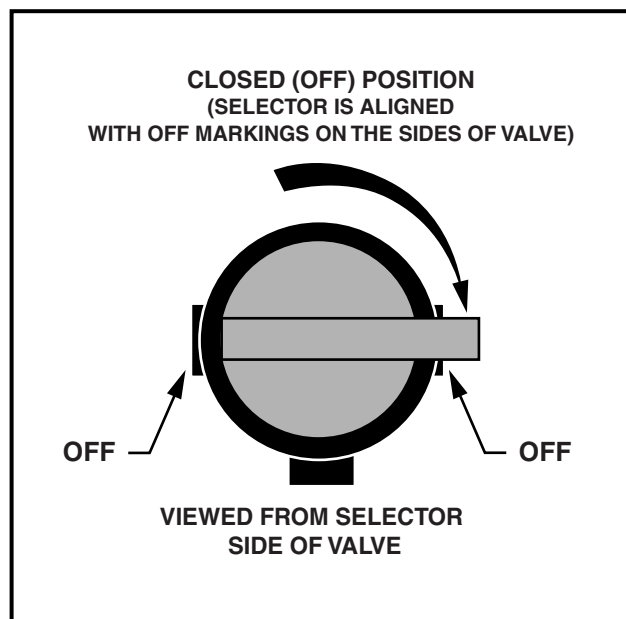

Figure 14 Fuel Shut-off Valve – Closed Position
- Turn the fuel shut-off valve to the closed (OFF) position (Figure 14).